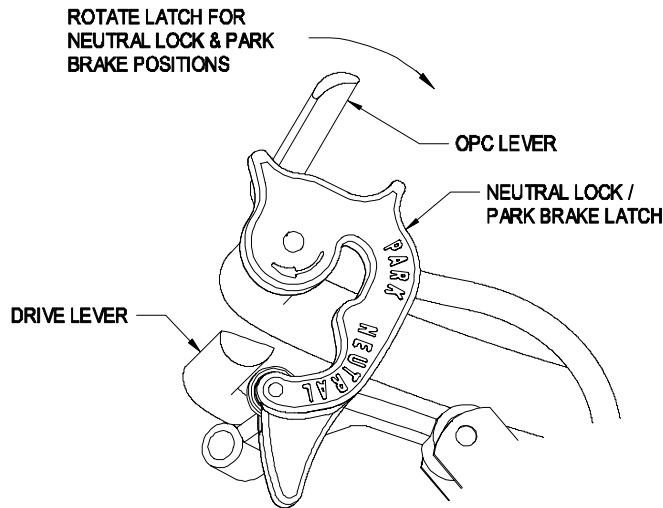

FIGURE 9
- 4.1.2 Operator Presence Control (OPC) Levers: Located on the upper handle assembly directly above the handle grips. See Figure 9. ***When these levers are depressed, the OPC system senses that the operator is in the normal operator's position. When the levers are released, the OPC system senses that the operator has moved from the normal operating position*** and will kill the engine if either the transmission shift lever is ***not in the neutral*** position or the ***PTO is engaged***. See Figure 9.
- 4.1.3 Drive Levers: Located on each side of the upper handle assembly directly below the handle grips. See Figure 9. These levers individually control the clutching action of the wheel drive belts and the brakes. When the drive levers are all of the way out, the brakes disengage and the wheel drive belts engage.
- 4.1.4 Neutral Lock/Parking Brake Latch: Located at the end of the handles. The purpose of these latches is to allow the operator to lock the drive levers in a "neutral" position where neither the wheel drive belts nor the brakes engage, or in a "park brake" position where the wheel drive belts are not engaged and the park brake is engaged. See Figure 9.